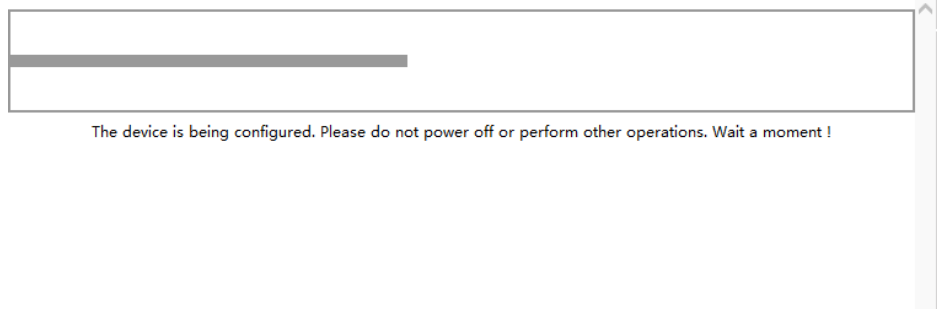

Figure 2-27 The waiting interface diagram after the user modifies the address
■ DNS: The IP address of the DNS server. When the device uses a static IP address, the user is required to fill in this item. If a specific DNS server is not used, the default gateway IP address is generally sufficient. Whenever users modify the address settings, they need to click the button to submit to the Mport series serial server and switch to a waiting page as shown in Figure 2-27.